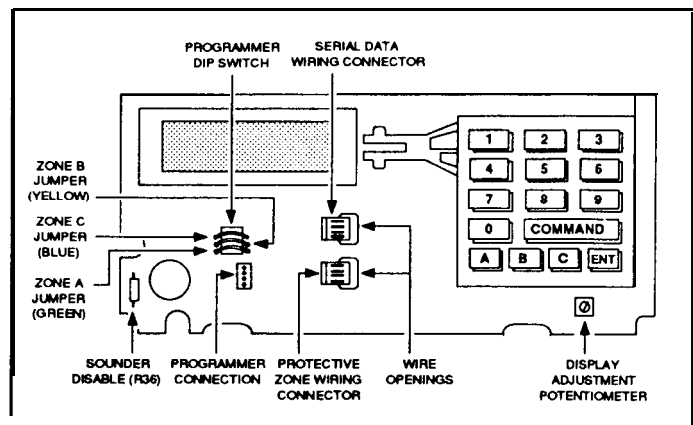

Figure 2: D636 CIRCUIT BOARD
To permanently disable the sounder; remove all power from the Command Center, cut the leads on resistor R36 (see Figure 2), and remove this component.
NOTE: The protective zones have jumpers that must be cut before wiring zone inputs (jumpers must be cut to detect alarms). If using protective zone A, cut the green (W1) jumper. If using protective zone B, cut the yellow (W2) jumper. If using protective zone C, cut the blue (W3) jumper (see Figure 2). Do NOT cut these jumpers if the protective zones are not used. Do NOT install end-of-line resistors if the protective zones are not used (the E.O.L. resistor can be used if the jumpers are already cut and the protective zones are not used).
9.4 Adjust the Display Contrast - Adjust the Potentiometer (see Figure 2) for optimum display contrast.